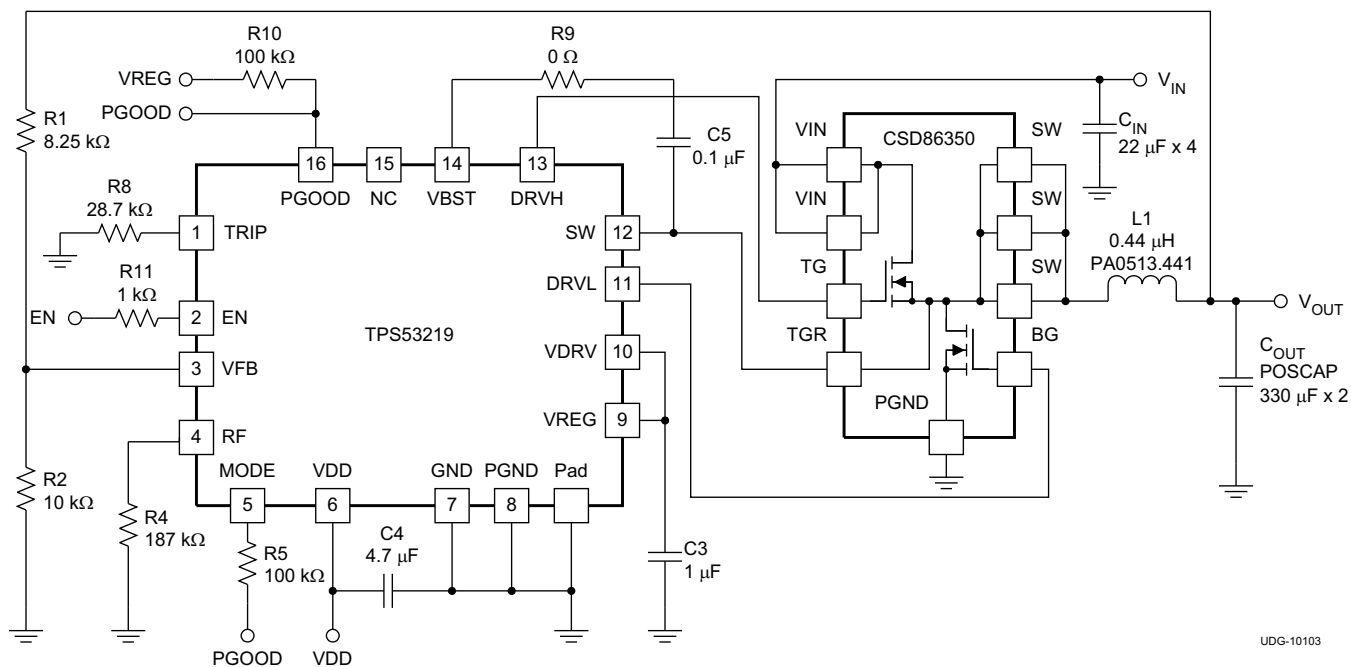
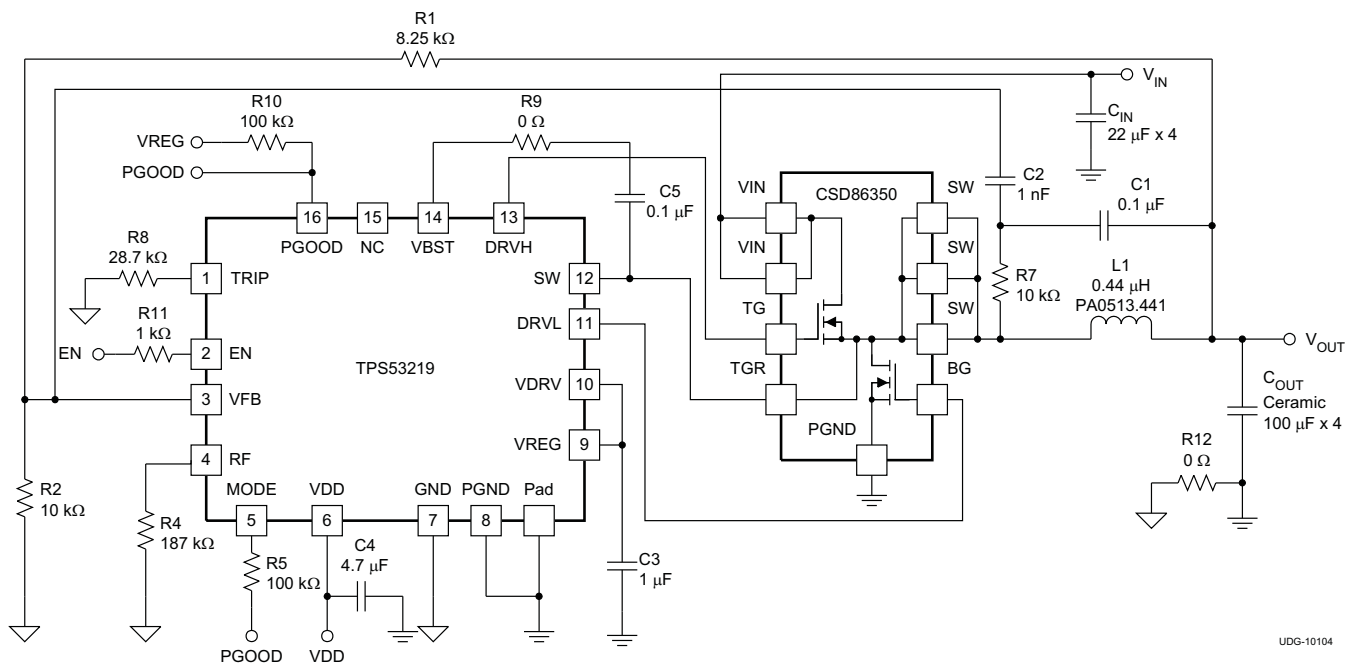

Figure 17. Typical Application Circuit Diagram with Power Block
Figure 18. Typical Application Circuit Diagram with Ceramic Output Capacitors
(1) Not production tested. Test conditions are V_{IN} = 12 V, V_{OUT} = 1.1 V, I_{OUT} = 10 A and using the application circuit shown in Figure 17 and Figure 18.
When a ceramic output capacitor is used, the stability criteria in Equation 2 cannot be satisfied. The ripple injection approach as shown in Figure 18 is implemented to increase the ripple on the VFB pin and make the system stable. C2 can be fixed at 1 nF. The value of C1 can be selected between 10 nF to 200 nF.